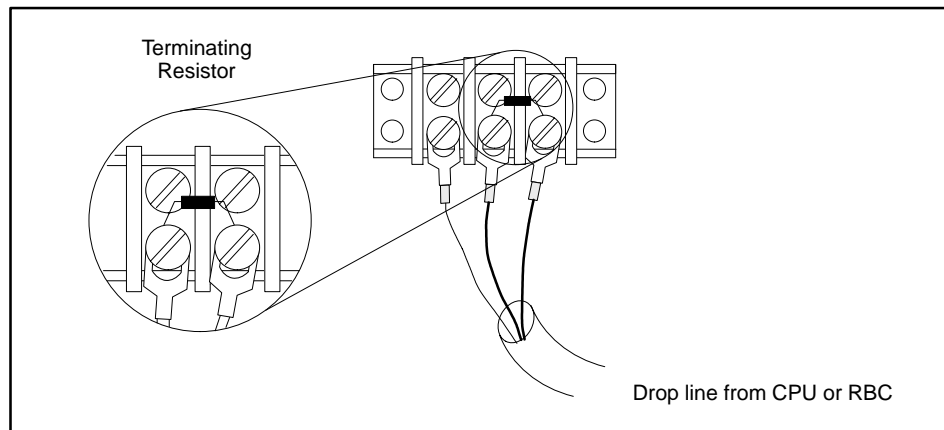

Figure 6-8 Adding a Terminating Resistor
6. If you are not using another terminal block, install a terminating resistor across the terminal screws securing the cable wires with the color-coded insulation jacket. See Figure 6-8.